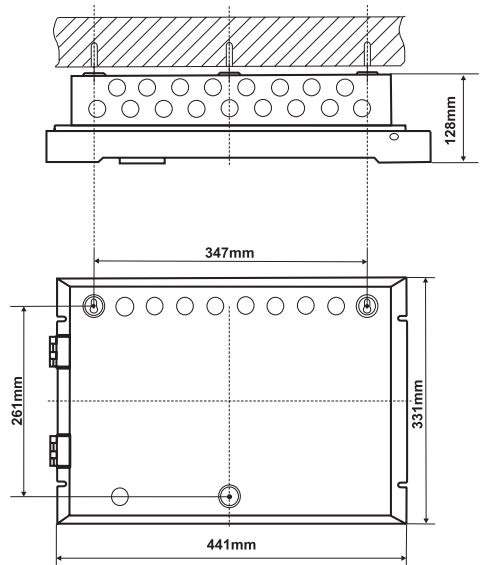

Figure 5.
- Drill  $\varnothing 6\text{-}8\text{mm}$  diameter openings in the wall and fix the box using the provided anchors and screws (Positions 2 and 4, page 31) - Figure 5.